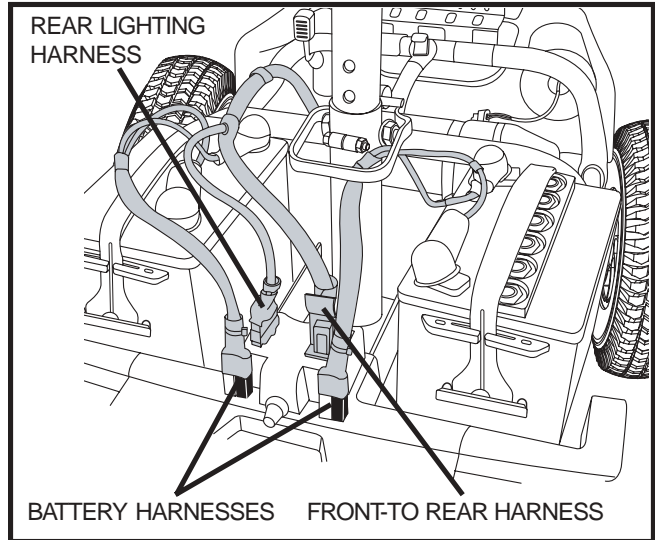

Figure 22. Harness Connections
5. Unplug the front-to-rear and rear lighting harnesses by squeezing the sides and pulling straight up. **See figure 22.**
6. Unplug both battery harnesses. Pull each harness straight up. **See figure 22.**
6. Connect the front-to-rear harness, rear lighting harness, and both battery harnesses. **See figure 22**.